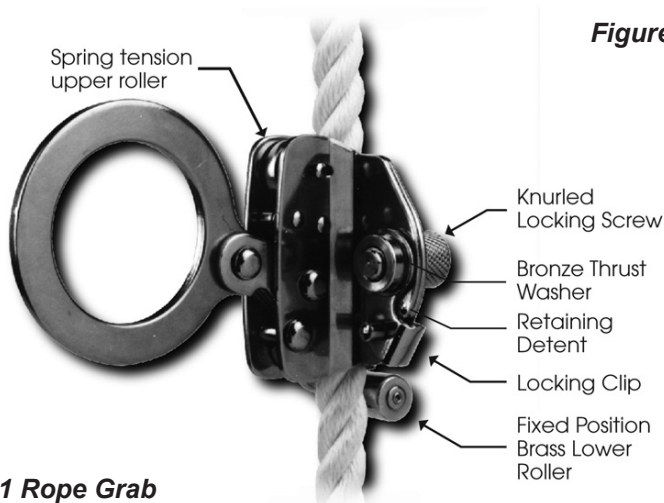

Figure 5
4) Attaching the Rope Grab to the Lifeline - Model 5001 (Fig. 5)